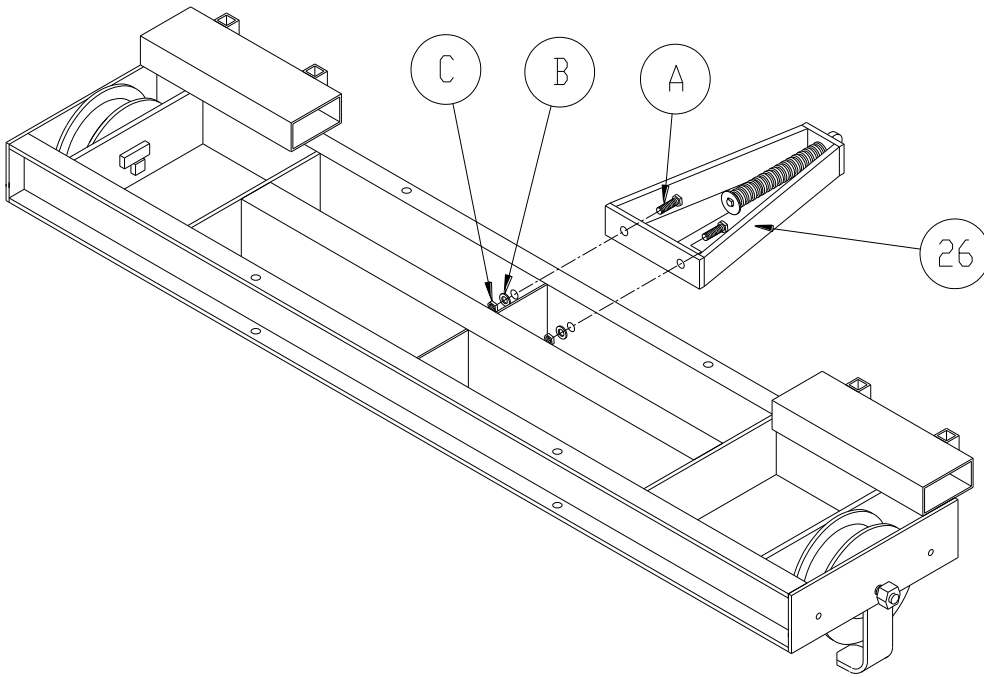

Figure 3-6.
1. Refer to Figure 3-6. Attach spring frames to railway carriage trucks with hardware supplied.